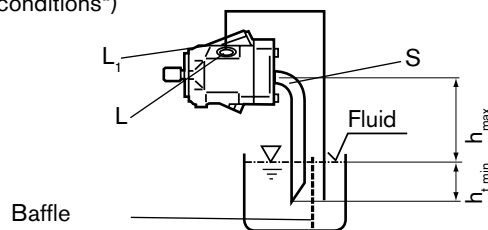

Fig. 4
- b) If the min. fluid level is below the top of the pump: pipe „L“ and „S“ acc. to fig. 4, „L₁“ plugged. (see also limit of conditions)
- a) Mounting above the tank: see fig. 4. (see also „Limit of conditions“)